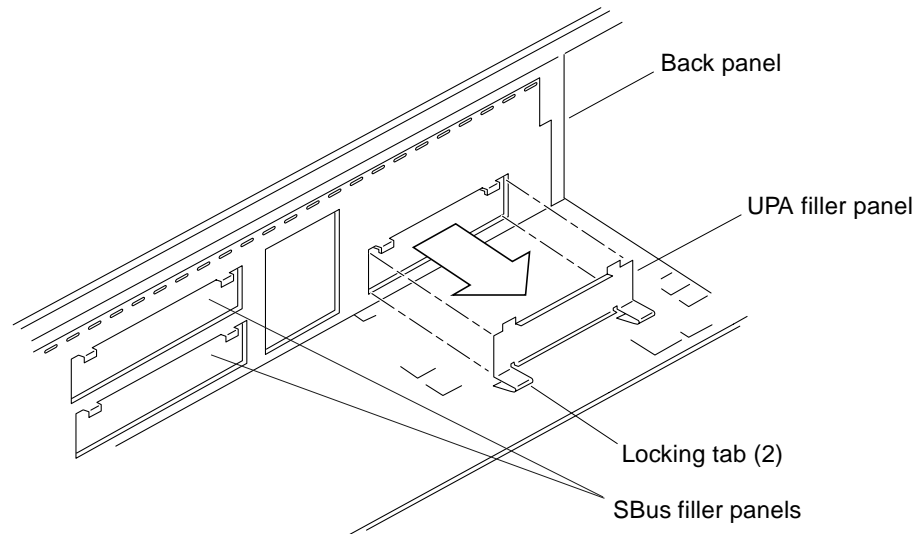

Figure 3-1 Removing Filler Panels from the Back Panel
- a. Squeeze the filler panel bottom locking tabs to unhook them from the back panel (Figure 3-1).